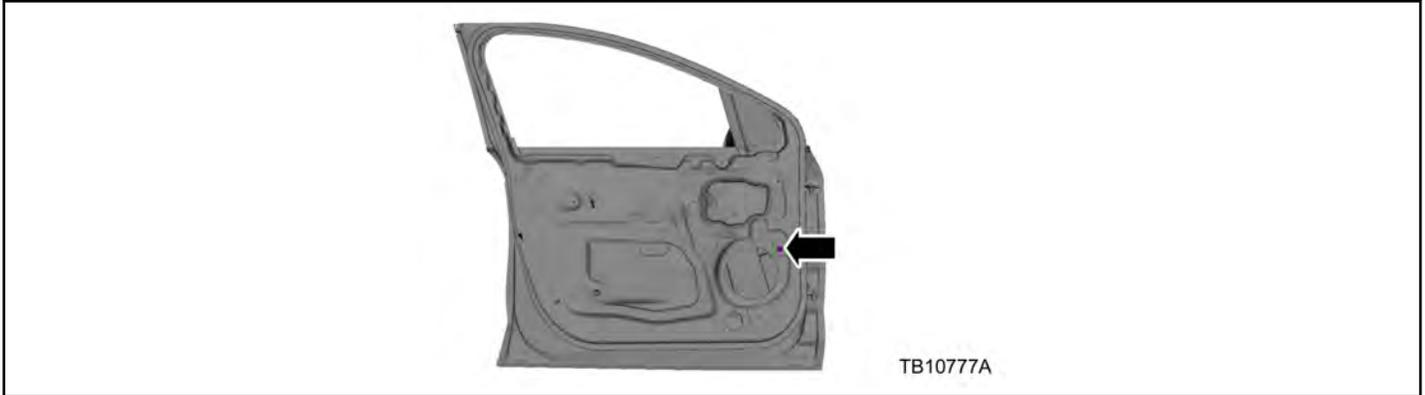

Figure 2 - Article 15-0167
4. Remove the bottom attachment bolt for the front window fixed glass division bar/window run channel. (Figure 2)